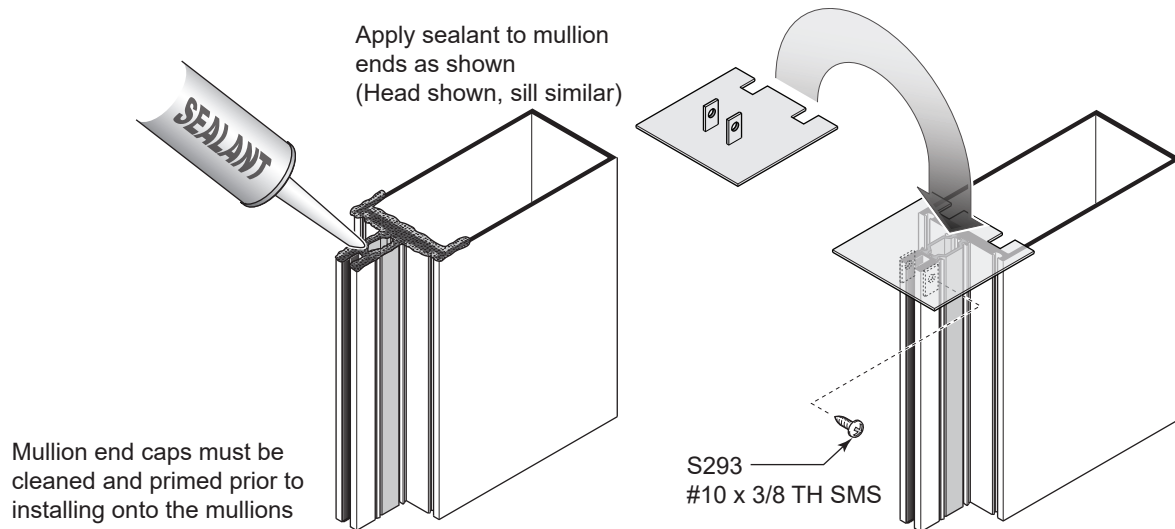
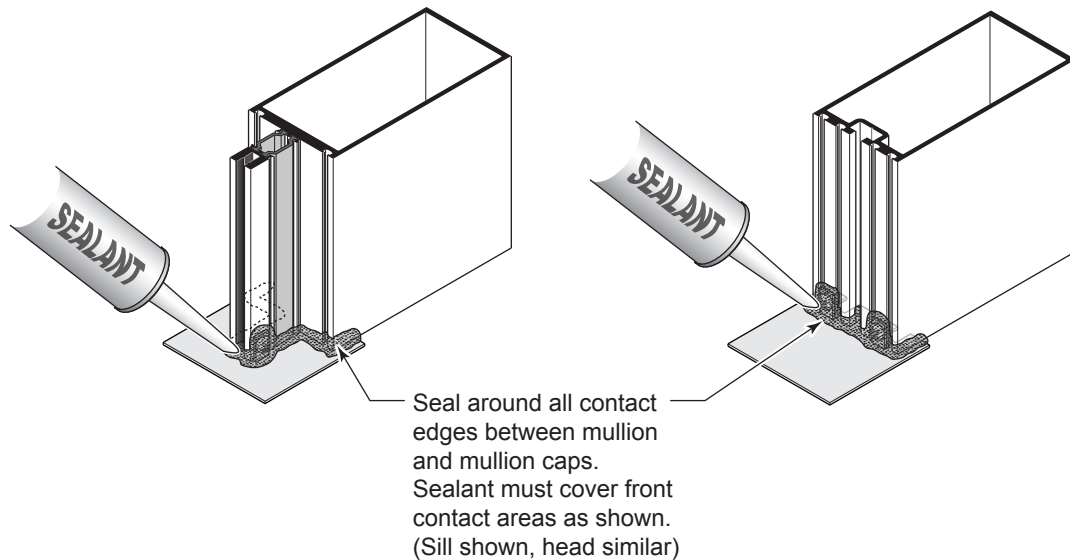

Fig. 35.1
Fig. 35.2
- A. Install top and bottom end caps on mullions. Tool sealant. See **Fig. 35.1** and **Fig. 35.2**.
- D. When P4633 polyamide and PTB120 thermal pressure plate is used, install the P4607 PVC pocket filler tube into perimeter members. See **Fig. 35.1** through **Fig. 35.4**.